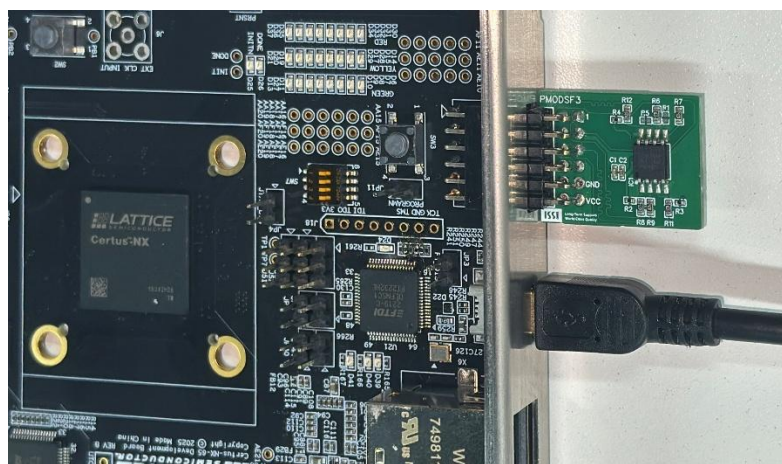

Figure 5.2. Connection of SPI Flash Module and Certus-NX-65 Development Board
1. Connect the SPI Flash module and J30 of the Certus-NX-65 Development Board J30, as shown in Figure 5.2.